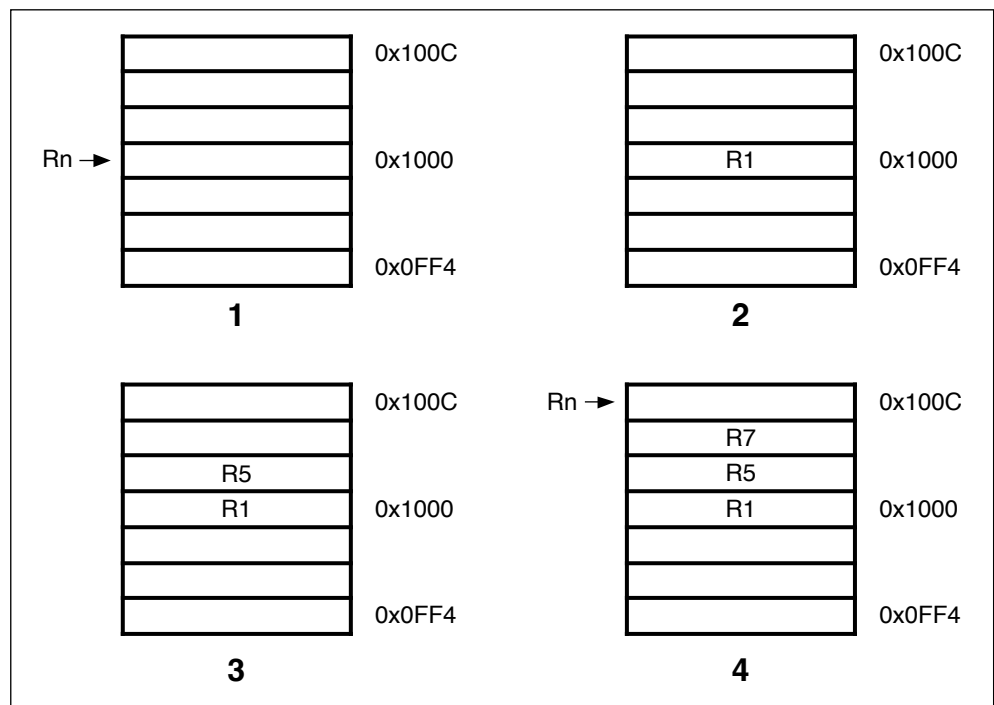
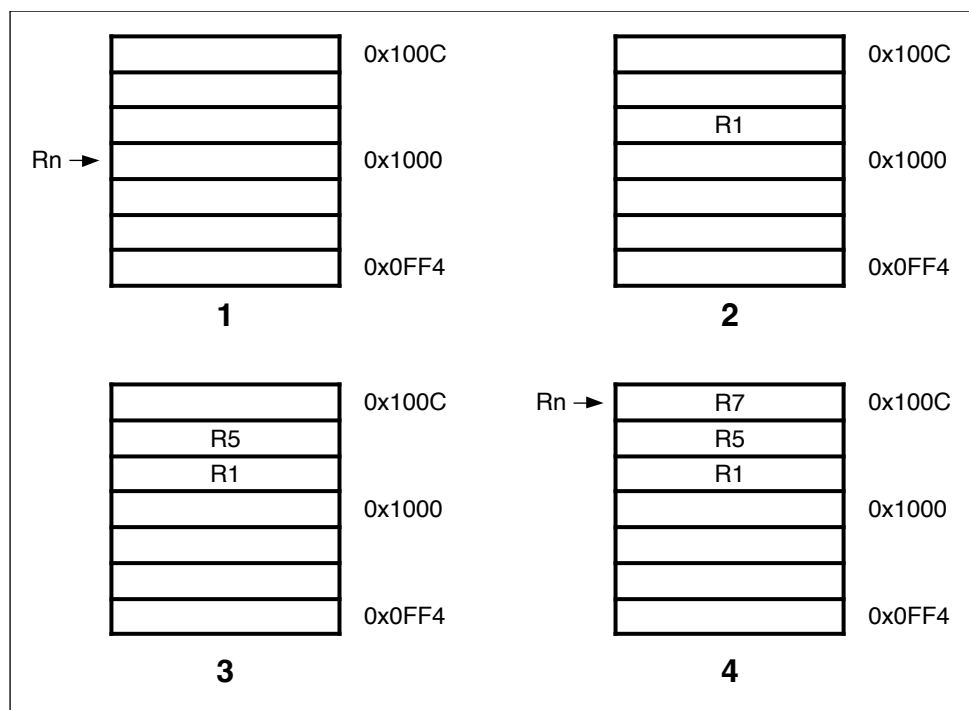
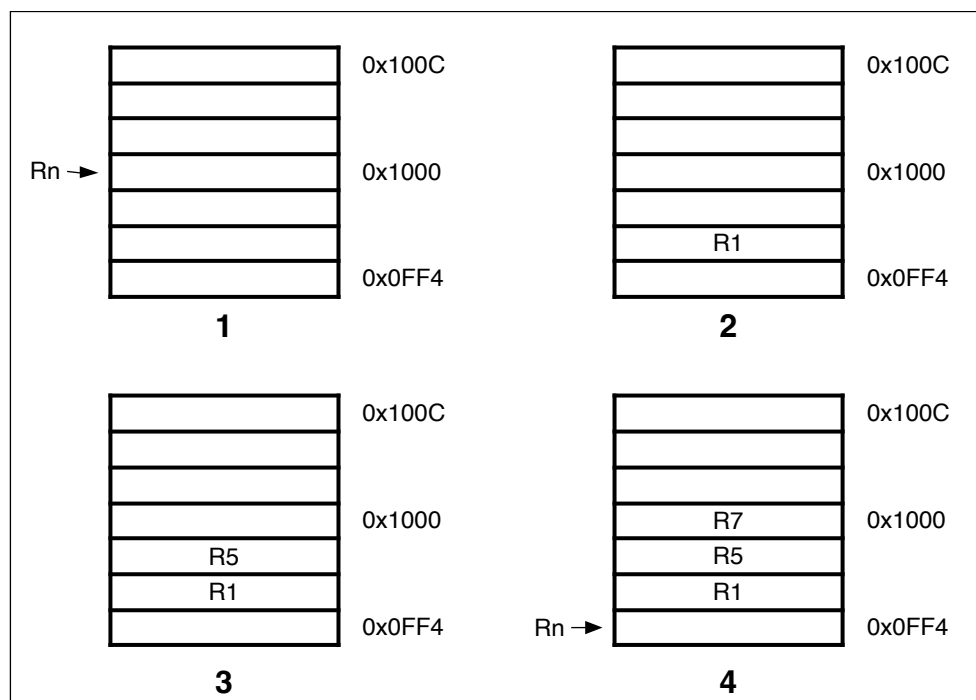
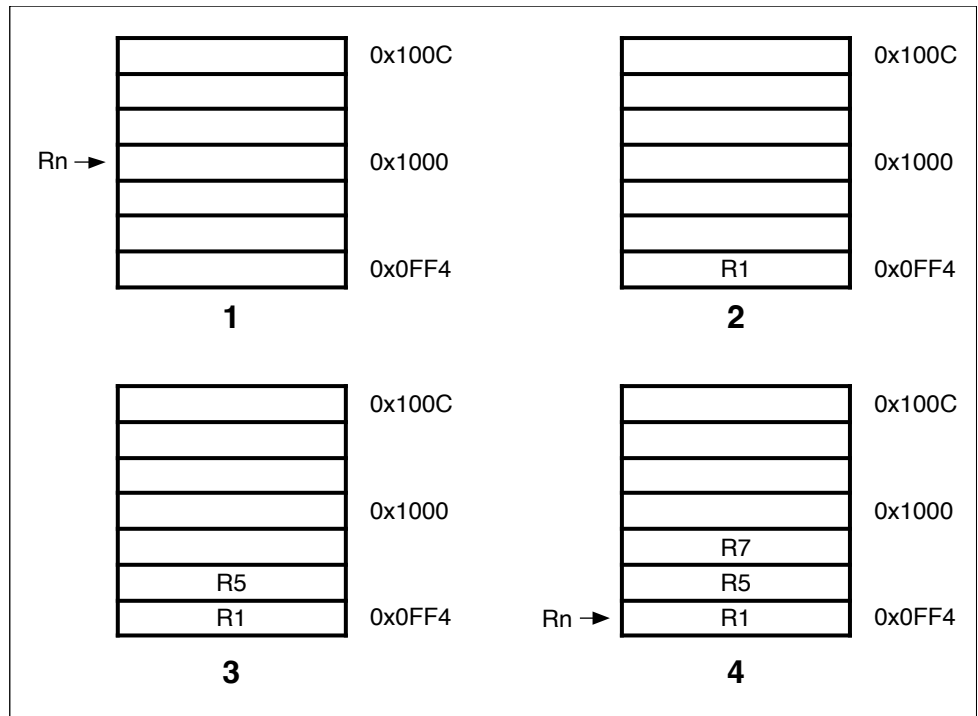

Figure 4-19: Post-increment addressing
Figure 4-20: Pre-increment addressing
Figure 4-21: Post-decrement addressing
Figure 4-22: Pre-decrement addressing
The transfer addresses are determined by the contents of the base register (Rn), the pre/post bit (P) and the up/down bit (U). The registers are transferred in the order lowest to highest, so R15 (if in the list) will always be transferred last. The lowest register also gets transferred to/from the lowest memory address. By way of illustration, consider the transfer of R1, R5 and R7 in the case where Rn=0x1000 and write back of the modified base is required (W=1). *Figure 4-19: Post-increment addressing*, *Figure 4-20: Pre-increment addressing*, *Figure 4-21: Post-decrement addressing* and *Figure 4-22: Pre-decrement addressing* show the sequence of register transfers, the addresses used, and the value of Rn after the instruction has completed.